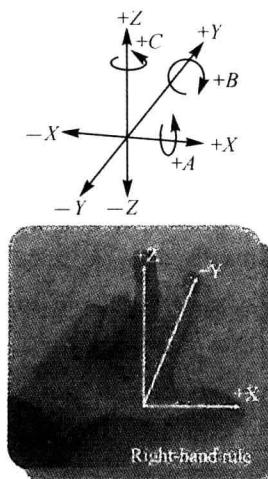

Fig. 1-1 Coordinate system
position the tool over the hole to be machined (in two axes) and machine the hole (with the third axis). Axes are named with letters. Common linear axis names are X, Y, and Z. Common rotary axis names are A, B, and C. These are related to the coordinate system.^③ See Fig. 1-1